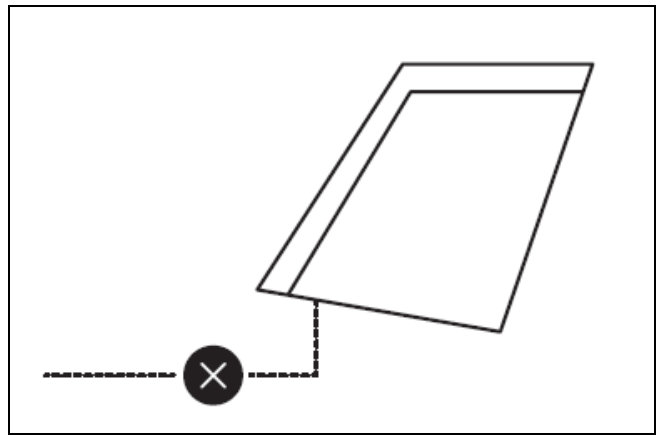

Figure 60
2. Remove the factory installed cable. See Figure 60.